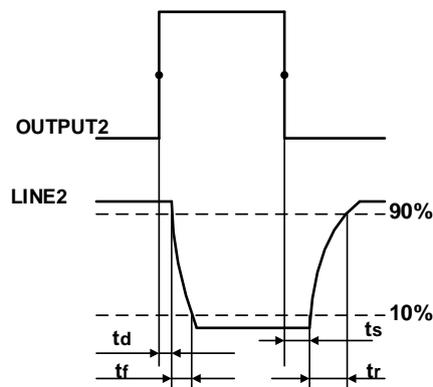

Figure 7-13 Parameter of Line2 output circuit
- Rising time delay = t_r+t_d : $<20\mu\text{s}$ ($0^{\circ}\text{C}\sim 45^{\circ}\text{C}$) (parameter description as shown in Figure 7-13)
- Falling time delay = t_s+t_f : $<20\mu\text{s}$ ($0^{\circ}\text{C}\sim 45^{\circ}\text{C}$) (parameter description as shown in Figure 7-13)